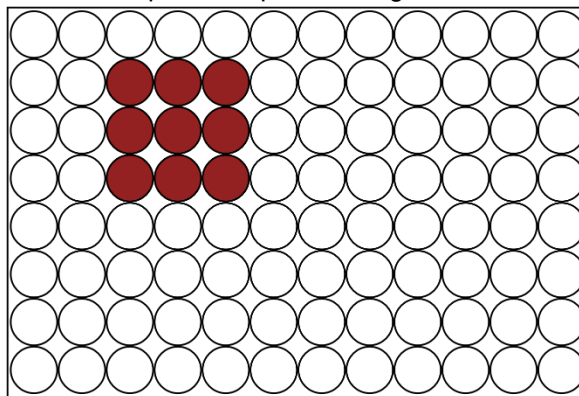

Figure 4. Well plate 3
- c. The placement of the samples is depicted in Figure 4.